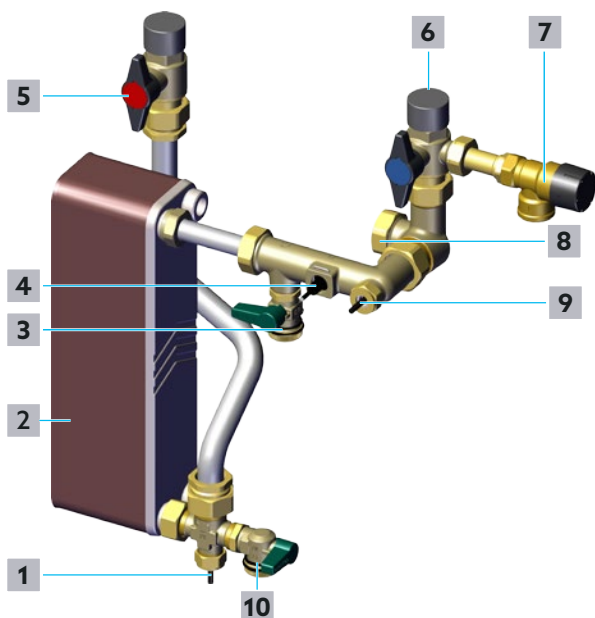

Fig. 31: Potable water circuit
- 2 Slowly close the shutoff ball valve for potable water (hot) (position **5** in Fig. 31 on page 49 and position **10** in Fig. 2 on page 12).
- 3 Slowly close the shutoff ball valve for potable water (cold) (position **6** in Fig. 31 on page 49 and position **11** in Fig. 2 on page 12).
- 4 Unscrew the cap of the fill and drain ball valve for potable water (hot) (position **10** in Fig. 31 on page 49 and position **16** in Fig. 2 on page 12).
- 5 Connect the drain hose for potable water to the fill and drain ball valve for potable water (hot) (position **10** in Fig. 31 on page 49 and position **16** in Fig. 2 on page 12).
- 6 Open the fill and drain ball valve for potable water (hot) (position **10** in Fig. 31 on page 49 and position **16** in Fig. 2 on page 12).
- 17** Close the fill and drain ball valve for potable water (hot) (position **10** in Fig. 31 on page 49 and position **16** in Fig. 2 on page 12).
- 5 Close the fill and drain ball valve for potable water (hot) (position 10 in Fig. 31 on page 49 and position 16 in Fig. 2 on page 12).